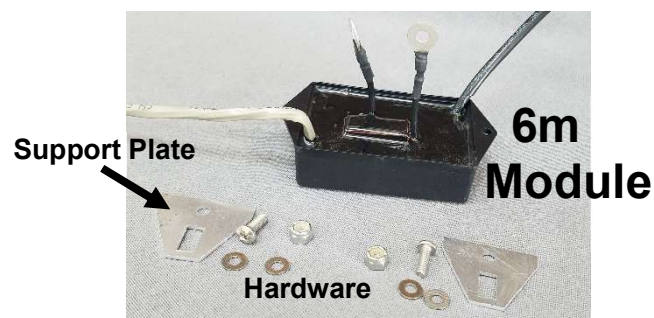

FIGURE 54
- (2) Module support plates (11801) shown in **FIGs 54, 55 and 56**.